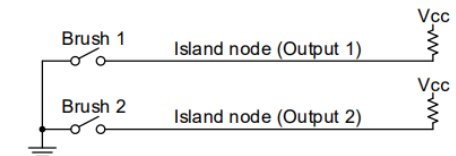

Figure 3. Typical Contact-Based Encoder
**1. Contact:** This relies on mechanical contacts to make or break electrical connections. Typically, the stationary component has islands of metal throughout a ring. The piece above it is free to rotate and has metal brushes that momentarily make contact with the islands, connecting them to ground. Figure 3 shows the electrical schematic.